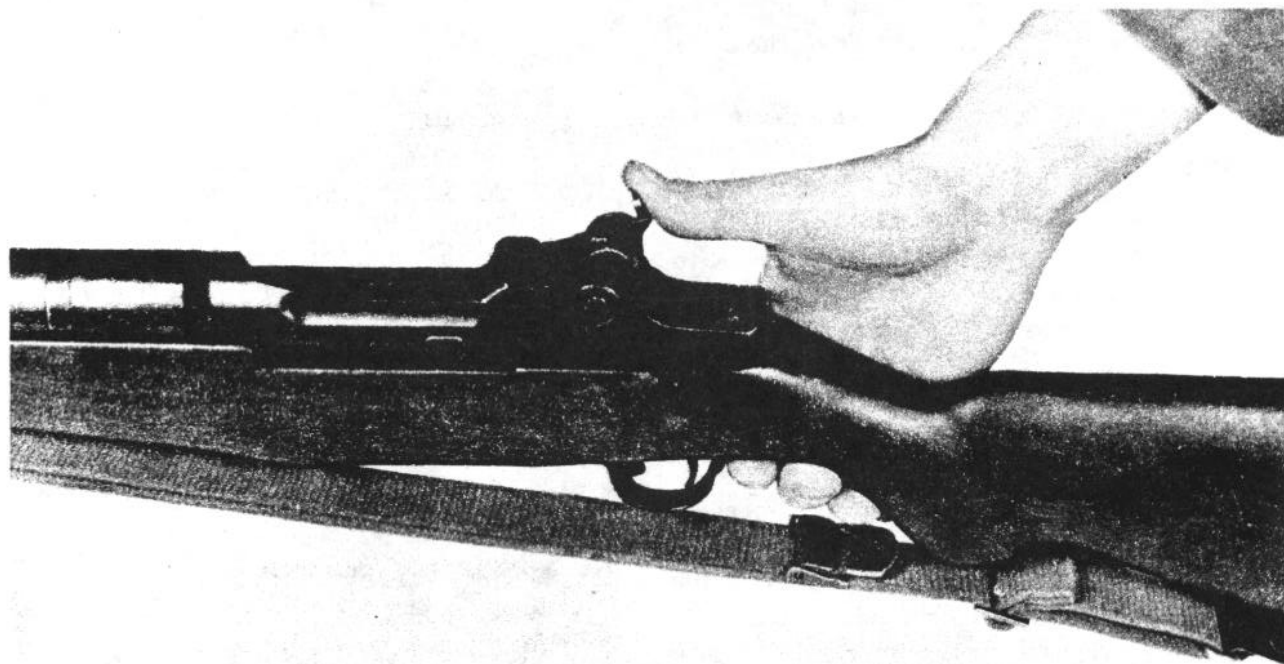

Figure 36. Proper sight tension.
(c) Grasp the rifle with the fingers around the small of the stock (fig. 36) and exert downward pressure on the aperture with the thumb of the same hand.
(4) If the aperture drops, sight tension must be adjusted. To do this the *windage* knob nut must be turned in a clockwise direction one click at a time until the aperture can no longer be pushed down (fig. 36). If the proper tension cannot be obtained, the rifle must be turned in to the unit armorer.